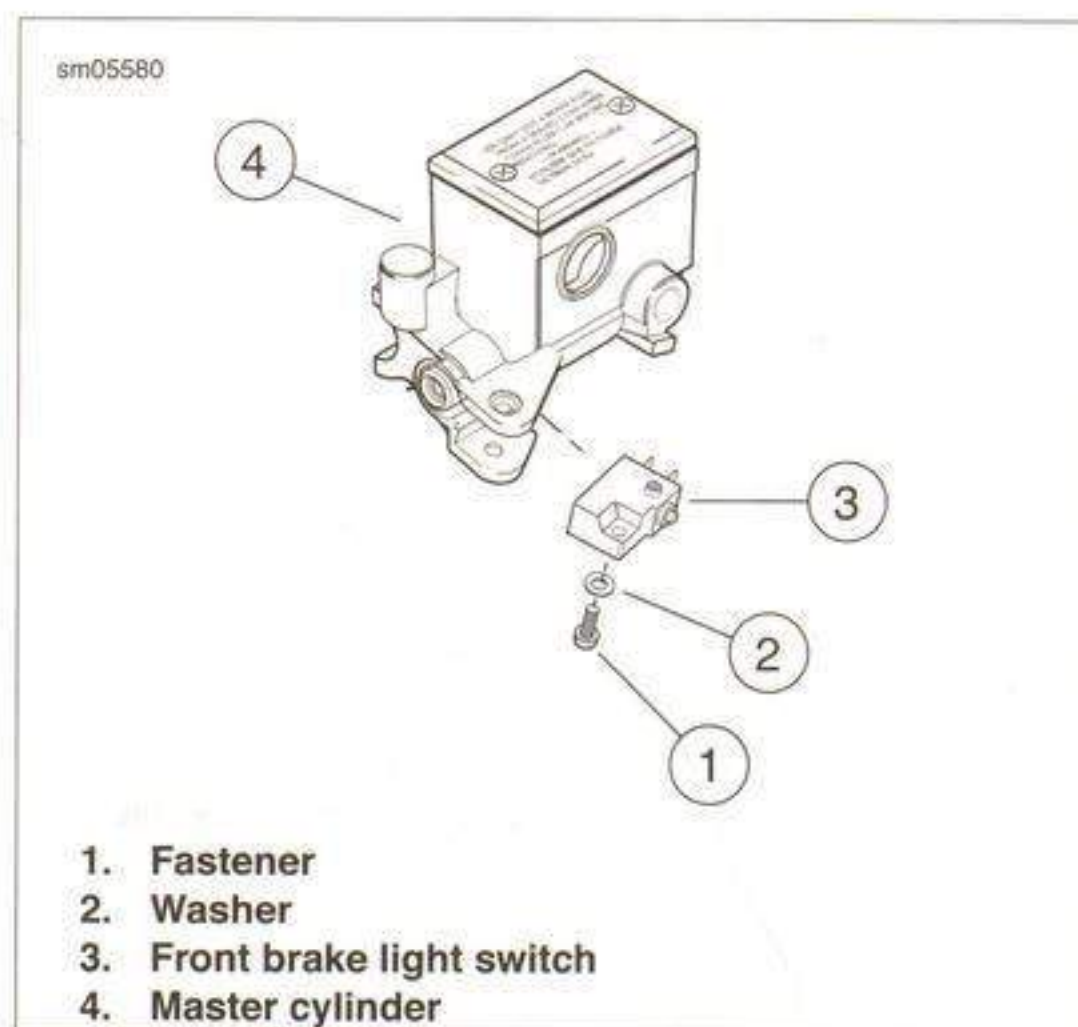

Figure 7-77. Front Brake Light Switch Assembly
2. To install, insert fastener through washer and switch into front master cylinder. See Figure 7-77.